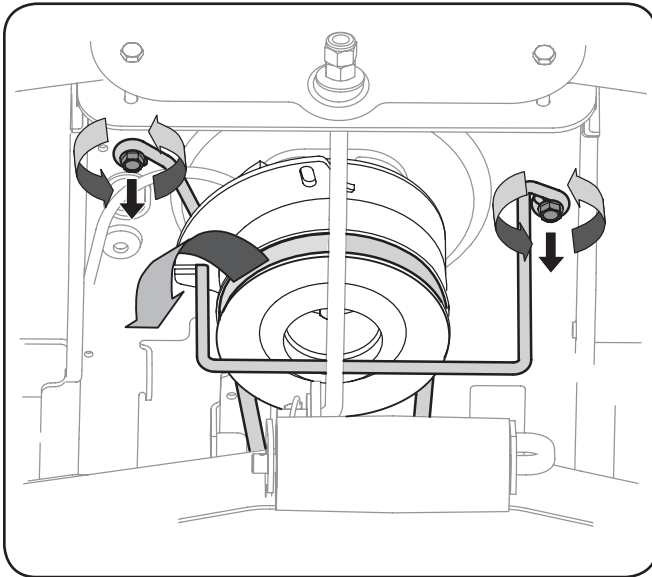

Figure 7-1
3. Locate the PTO clutch under the front of your tractor. See Fig. 7-1.
4. Remove the belt guard and belt as follows. Refer to Fig. 7-1: